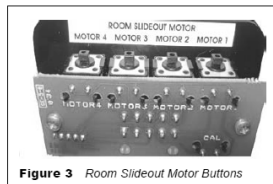

Figure 3 Room Slideout Motor Buttons
4. The unit is now ready to retract the room. Press and hold the ROOM SLIDEOUT MOTOR buttons 1 and 2 on the back of the touchpad (Fig 3).
Press the IN button on the front of the wall touchpad until the room is fully retracted. If one side of the room needs to retract further in order to get a good seal, press and hold the motor button (Fig 3) corresponding to ONLY the motor you want to move. Press the IN button on the front of the touchpad to retract the room the remainder of the way.